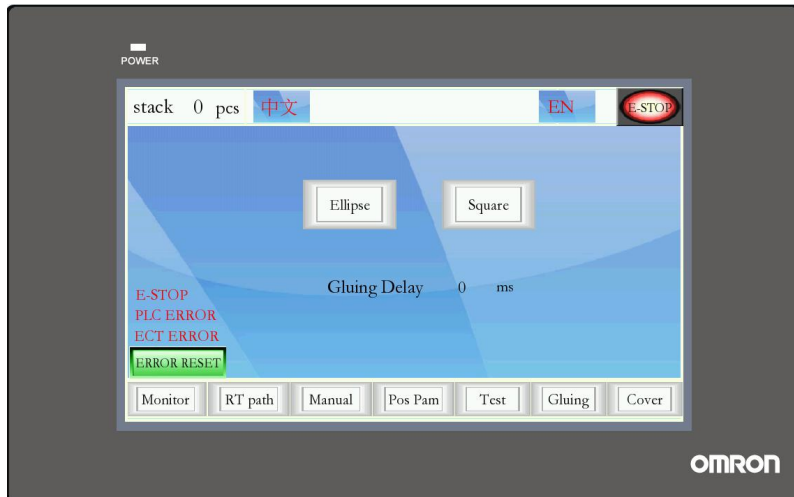
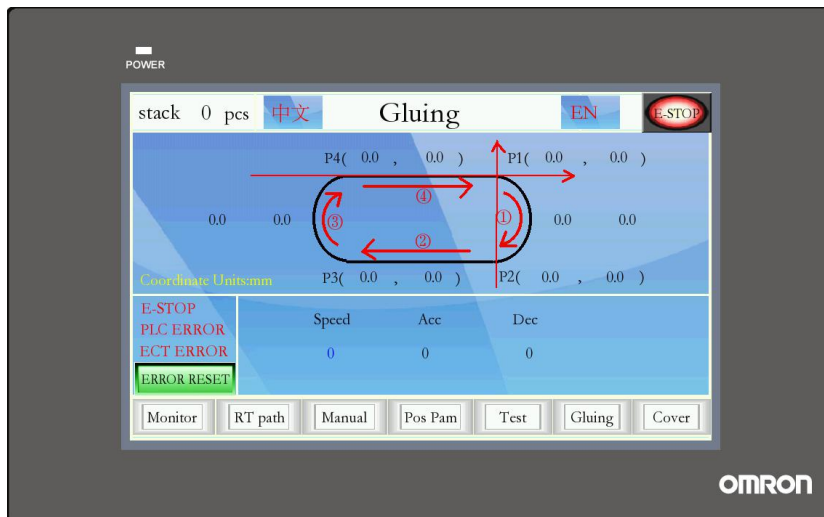
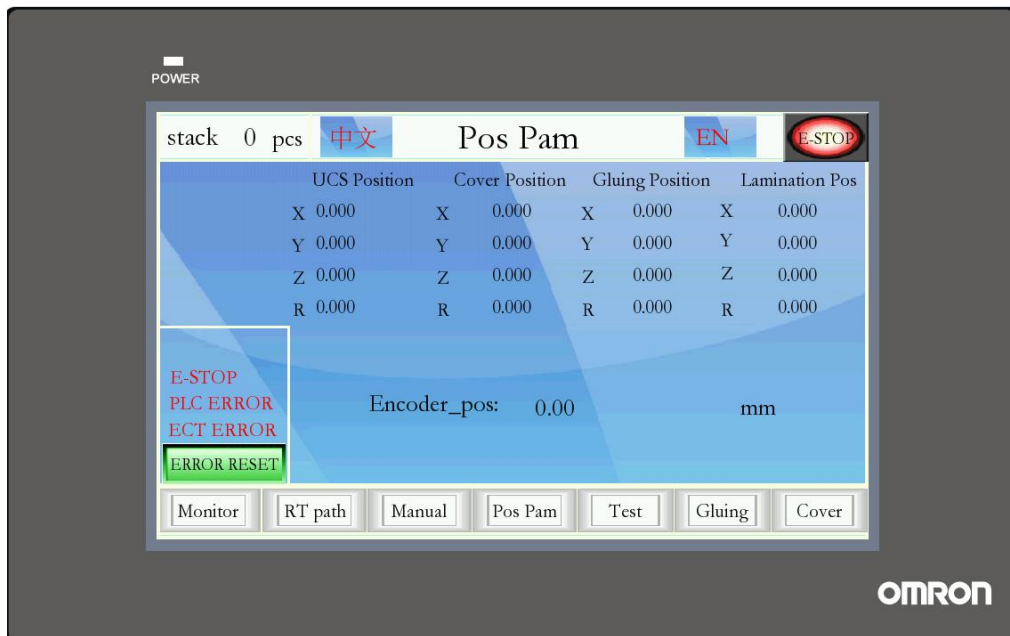

Figure 3
Figure 4
Figure 5
2. As shown in Figure 2, click on the upper right 【E-stop】 button , the bottom left of the original  【E-stop】 text disappears , and then click the  【ERROR RESET】key to enter the debug state. According to the shape of the lid of the fit requirements choose to click the 【Ellipse】  or 【square】 button , and the bottom of the page 【Gluing】 button  to enter figure 3 system.
3. As show in figure 3, corresponding to click on the newly selected lids shape click the **【Ellipse】** or **【square】** button , enter Figure 4 or Figure 6 **【Gluing】** spray trajectory system, the system corresponds to **【Ellipse】** or **【square】** button to operate.
4.1 As show in figure 4, the screen shows the size of the parameters of the **【Gluing】** (coating /spray trajectory) parameter size, according to the value of the parameter and the actual production of the lid of the gluing at the size of the value of the amendment, after correction, click on the **【 position parameter 】**  button to enter Figure 5.
4.2 As show in figure 6, the screen shows the gluing (spray) trajectory parameter size coordinate value, according to the value of the parameters and the actual production of the lid of the coating at the size of the value of the correction, modify the 【position parameter】  button to enter Figure 5.